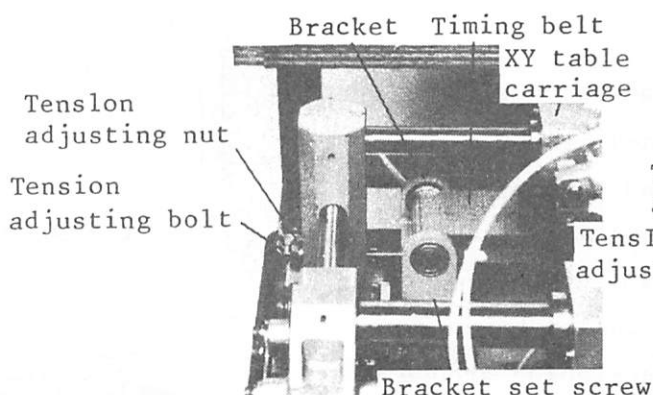

Fig. 11.1 Y axis side
- 11.1.1 Adjusting the table drive belt tension (Fig. 11.1) The timing (toothed) belt tension can be adjusted as follows (to be adjusted at two places each for X axis and Y axis):